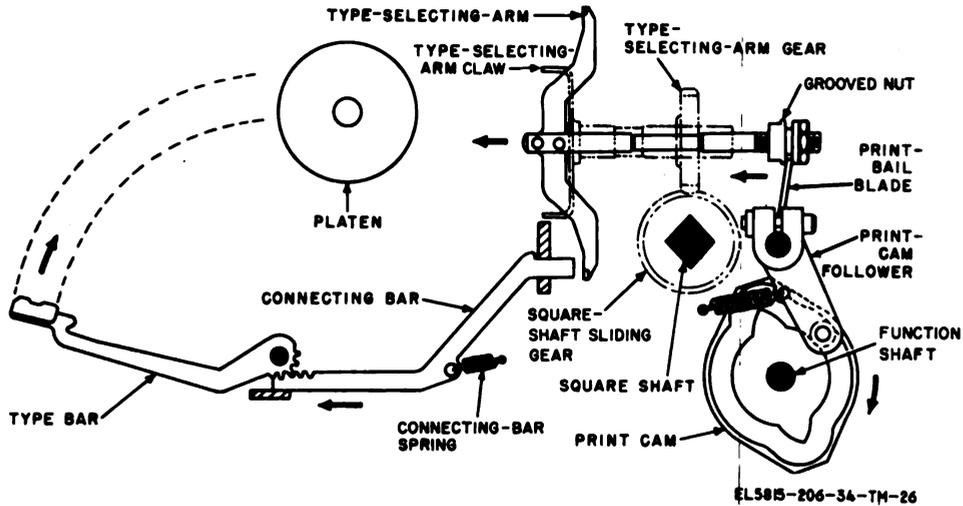

Figure 2-26. Printing mechanism.
b. Printing of Selected Character. Printing occurs immediately after rotation of the type-selecting arm is halted (a above). A lobe of the print cam (fig. 2-26) causes the print-cam follower to pivot counterclockwise, causing the print-bail blade to move forward sharply. The print-bail blade is engaged in the groove of the grooved nut on the shaft of the type-selecting arm. The type-selecting arm pushes the aligned connecting bar forward to cause the type bar to strike against the platen. The roller of the print-cam follower then moves to a low portion of the print cam, causing the type-selecting arm to return to the rearward position. The print cam is firmly fastened to the function shaft (fig. 2-27) and turns one revolution each time the transfer-lever latch tripping cam trips the transfer lever (para 2-19b).
2	Square-shaft stop arm and type-selecting arm. Print cam starts 1/2 revolution (fig. 2-26).